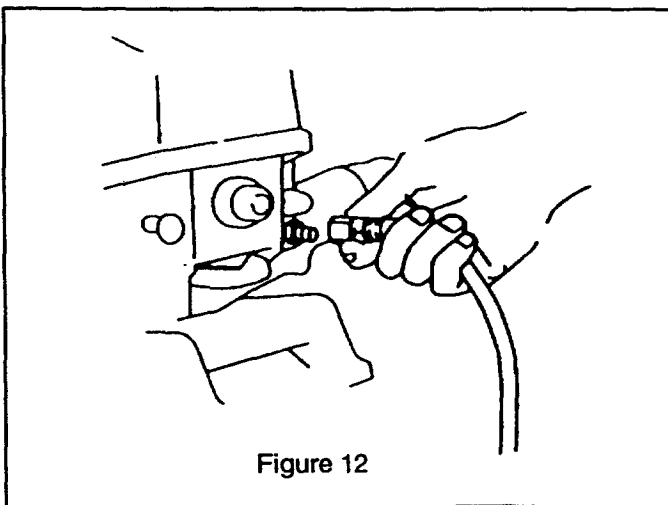

Figure 12
- Connect fuel line to quick-disconnect fitting in front of motor (Figure 12).